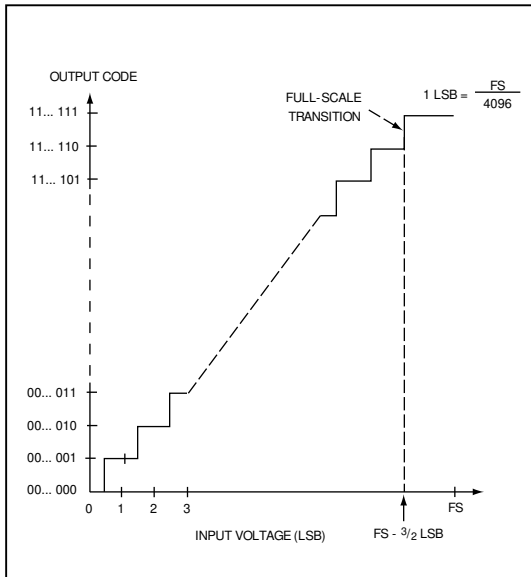

Figure 10. Unipolar Transfer Function
Output data coding for the MAX196/MAX198 is binary in unipolar mode with $1\text{LSB} = (\text{FS} / 4096)$ and two-complement binary in bipolar mode with $1\text{LSB} = [(2 \times |\text{FS}|) / 4096]$. Code transitions occur halfway between successive-integer LSB values. Figures 10 and 11 show the input/output (I/O) transfer functions for unipolar and bipolar operations, respectively. For full-scale (FS) values, refer to Table 1.